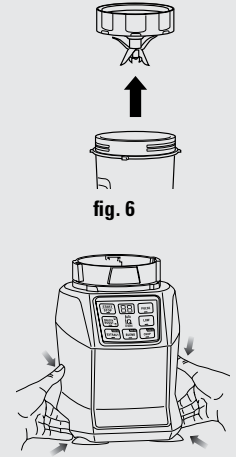

fig. 6
10 Do not store blended contents in the Nutri Ninja cup with the Pro Extractor Blades Assembly attached. (Fig. 6)
- 7 Holding the lid by the handle in the upright position, place it on top of the pitcher aligning the triangle located on the lid with the triangle located on the pitcher's handle. (Fig. 6) Press the handle down until you hear a click. The triangles on the lid and the blender handle **MUST** be aligned in order for the blender to turn on. (Fig. 7)